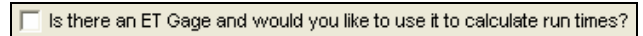

Figure 16.4.3B
2. If this controller is going to be connected to an ET gage check the **Is there an ET Gage and would you like to use it to calculate run times?** box (Figure 16.4.3B).